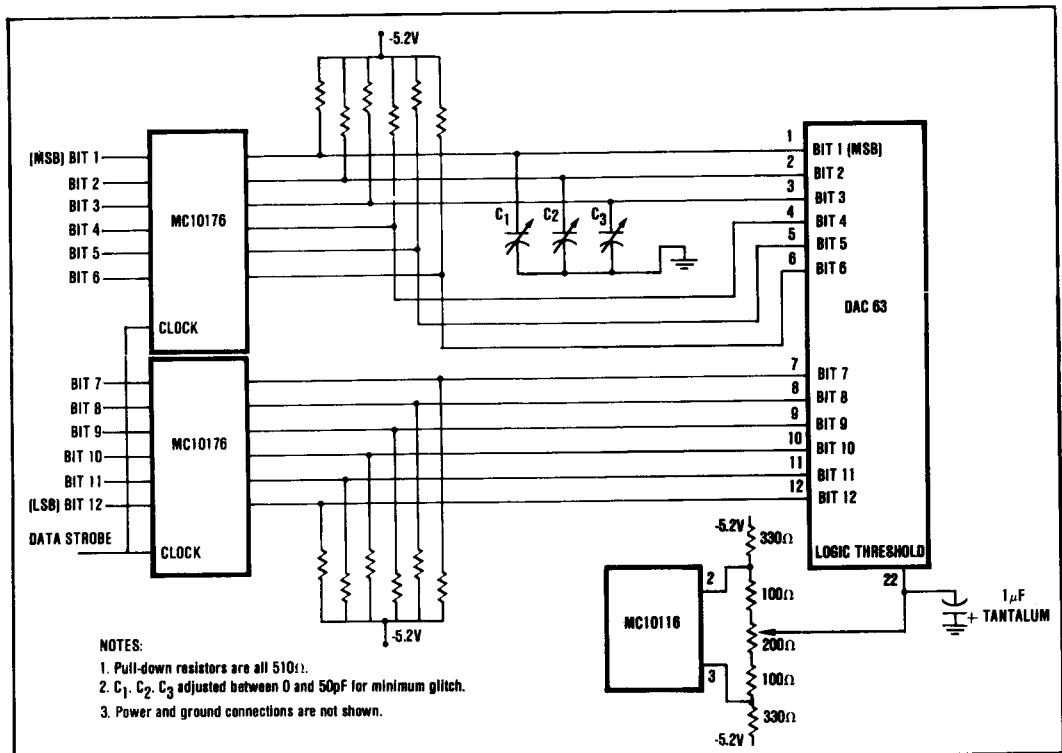

FIGURE 6. DAC63 Interface to Input Latches Including Glitch-Adjust Circuitry.
5. Bring the source of the digital driving signal as close to the inputs of the DAC63 as possible. If the digital inputs are not clean it will be necessary to reshape them using registers or line drivers. Figure 6 shows how to interface the DAC63 to an input register. It is recommended that the logic power line be bypassed near the digital logic circuitry as a further measure to achieve clean signals.
The DAC63 design has been optimized for low glitch energy. However, a further reduction in the output glitch can be achieved by adjusting the skew of the higher order bits of the driving circuitry and by adjusting the logic threshold. This can be done by connecting a variable capacitor from the data lines to ground on each of the first three significant bits (more than three lines may be adjusted if desired). Refer to Figure 6. It will be necessary to create a driving digital code pattern that causes a major carry transition around these bits. It is convenient to use a digital ramp from a counter for this purpose. Initially set the logic threshold exactly half-way between logic 1 and a logic 0. This will be about -1.3V. Then